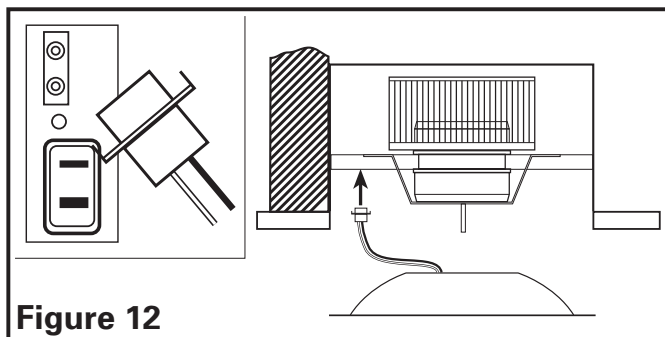

Figure 12
2. Plug cord from lamp holders into the appropriate receptacle (**Figure 12**).